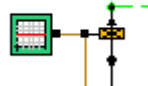

Figure 11.12. Plot sensor for compressor outlet pressure.
11.11, is sensing compressor outlet pressure, while that attached to the turbocharger waste-gate is sensing the flow area of the restriction (Figure 11.12).